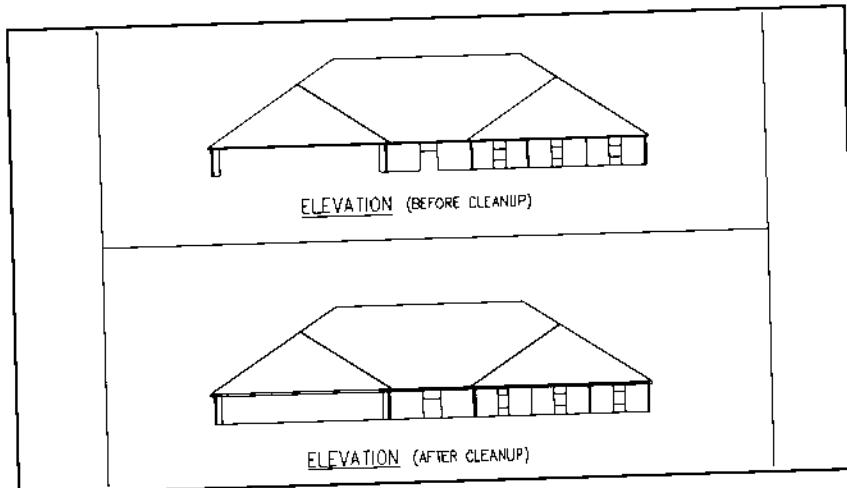

Figure 7.
4. An enlarged view of the draft elevation before and after cleanup is shown in Figure 7.